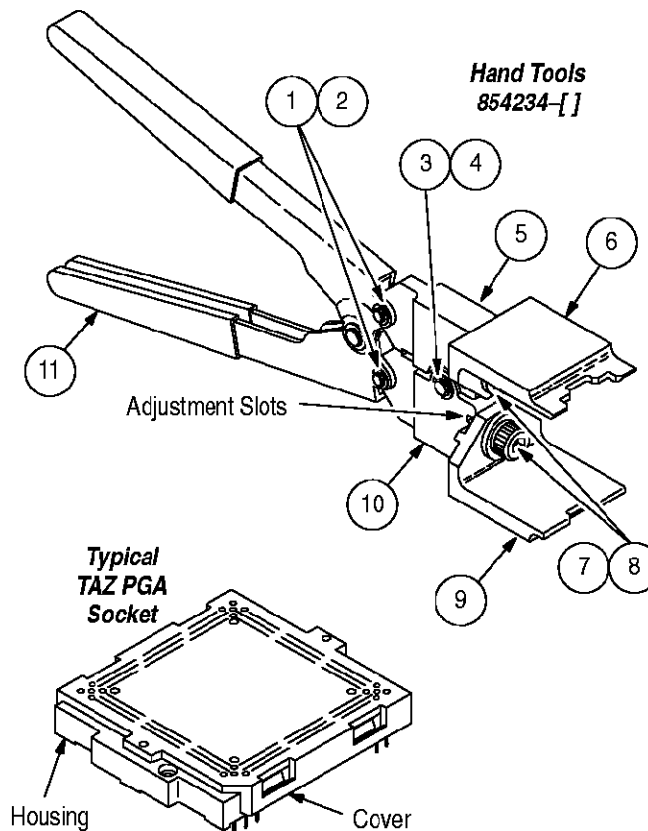

Figure 1
The AMP\* Hand Tools 854234-1 and 854234-2 are used to open and close Tool Actuated ZIF (TAZ) Pin Grid Array (PGA) Sockets so PGA devices can be installed or removed. Figure 1 lists product part numbers. See AMP Application Specification 114-1068 and AMP Catalog 82172 for additional product information.
Replacement parts are listed in Figure 1. Order replacement parts through your AMP representative or call 1-800-526-5142, or send a facsimile of your purchase order to 1-717-986-7605, or write to:
- Removed superseded part number in Item 2, Figure 1, and replaced with 1-23619-6